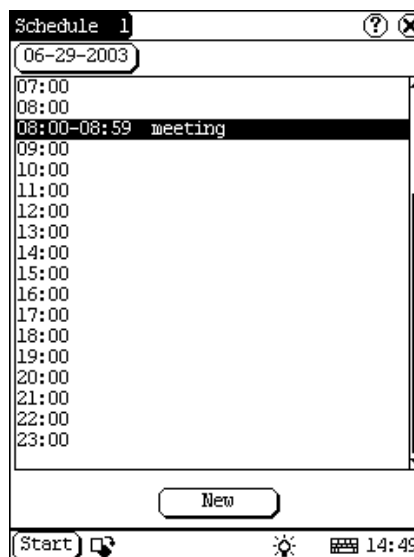

Figure 4-28
- 3) In the list box in the middle of the interface, all schedules on that day corresponding to the Date button will be displayed. (See Figure 4-28)